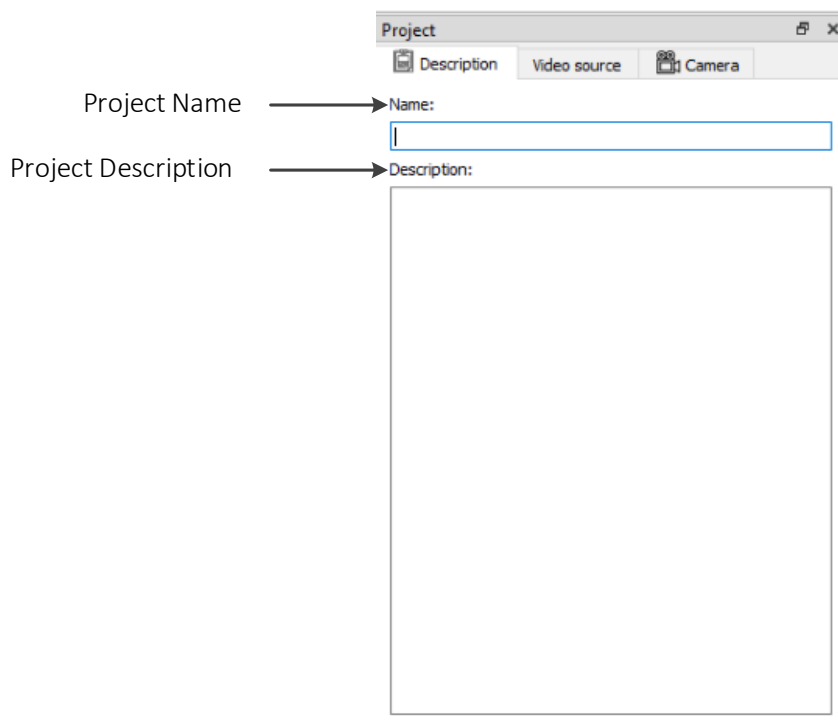

Figure 35 – New project window
2. A project window shown in Figure 35 will be opened.